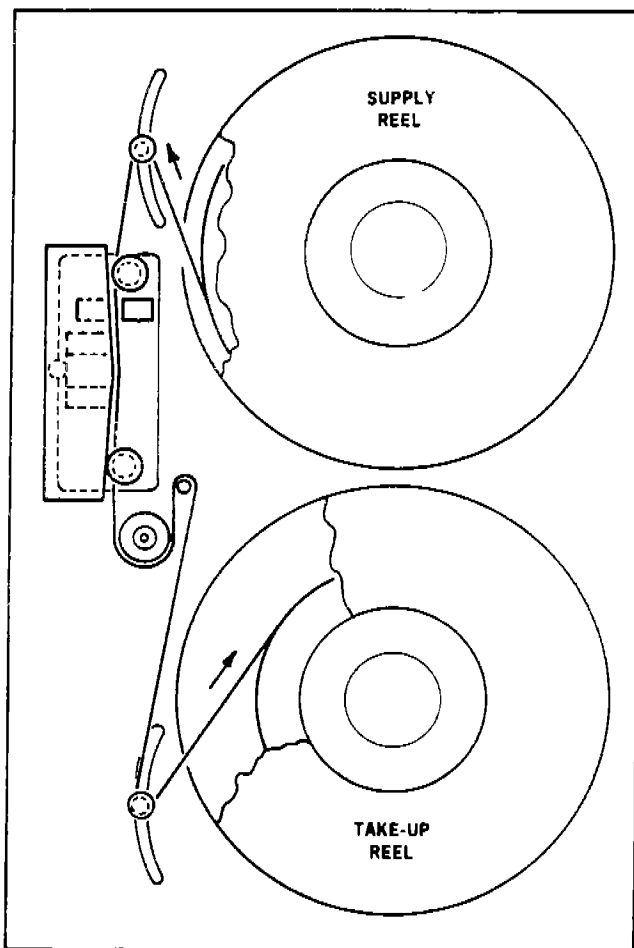

Figure 2-1. Tape Threading
- a. Place the tape file reel to be used on the upper or supply hub (Figure 2-1) with the write-enable ring sidenext to the transport deck. Make certain the reel is all the way against the hub flange.
- c. Thread the tape along the path as shown by the threading diagram (Figure 2-1).